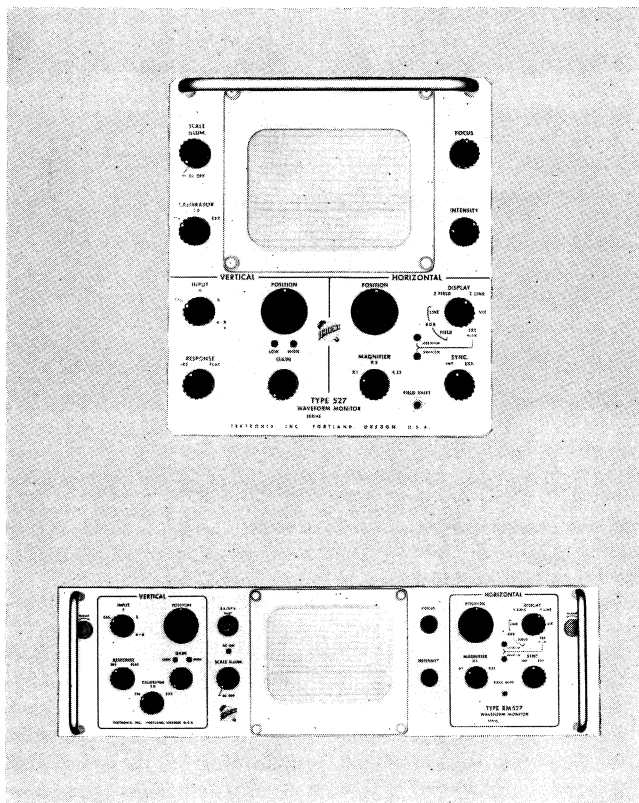

Fig. 3-1. Front-panel views of the Type 527 and RM527.
Front-panel views of the Type 527 and RM527 Waveform Monitors are shown in Fig. 3-1. Functions of all front-panel controls are described below in Table 3-1.
2. Set the front-panel controls as follows, or refer to Fig. 3-1 which shows the controls at the same settings.